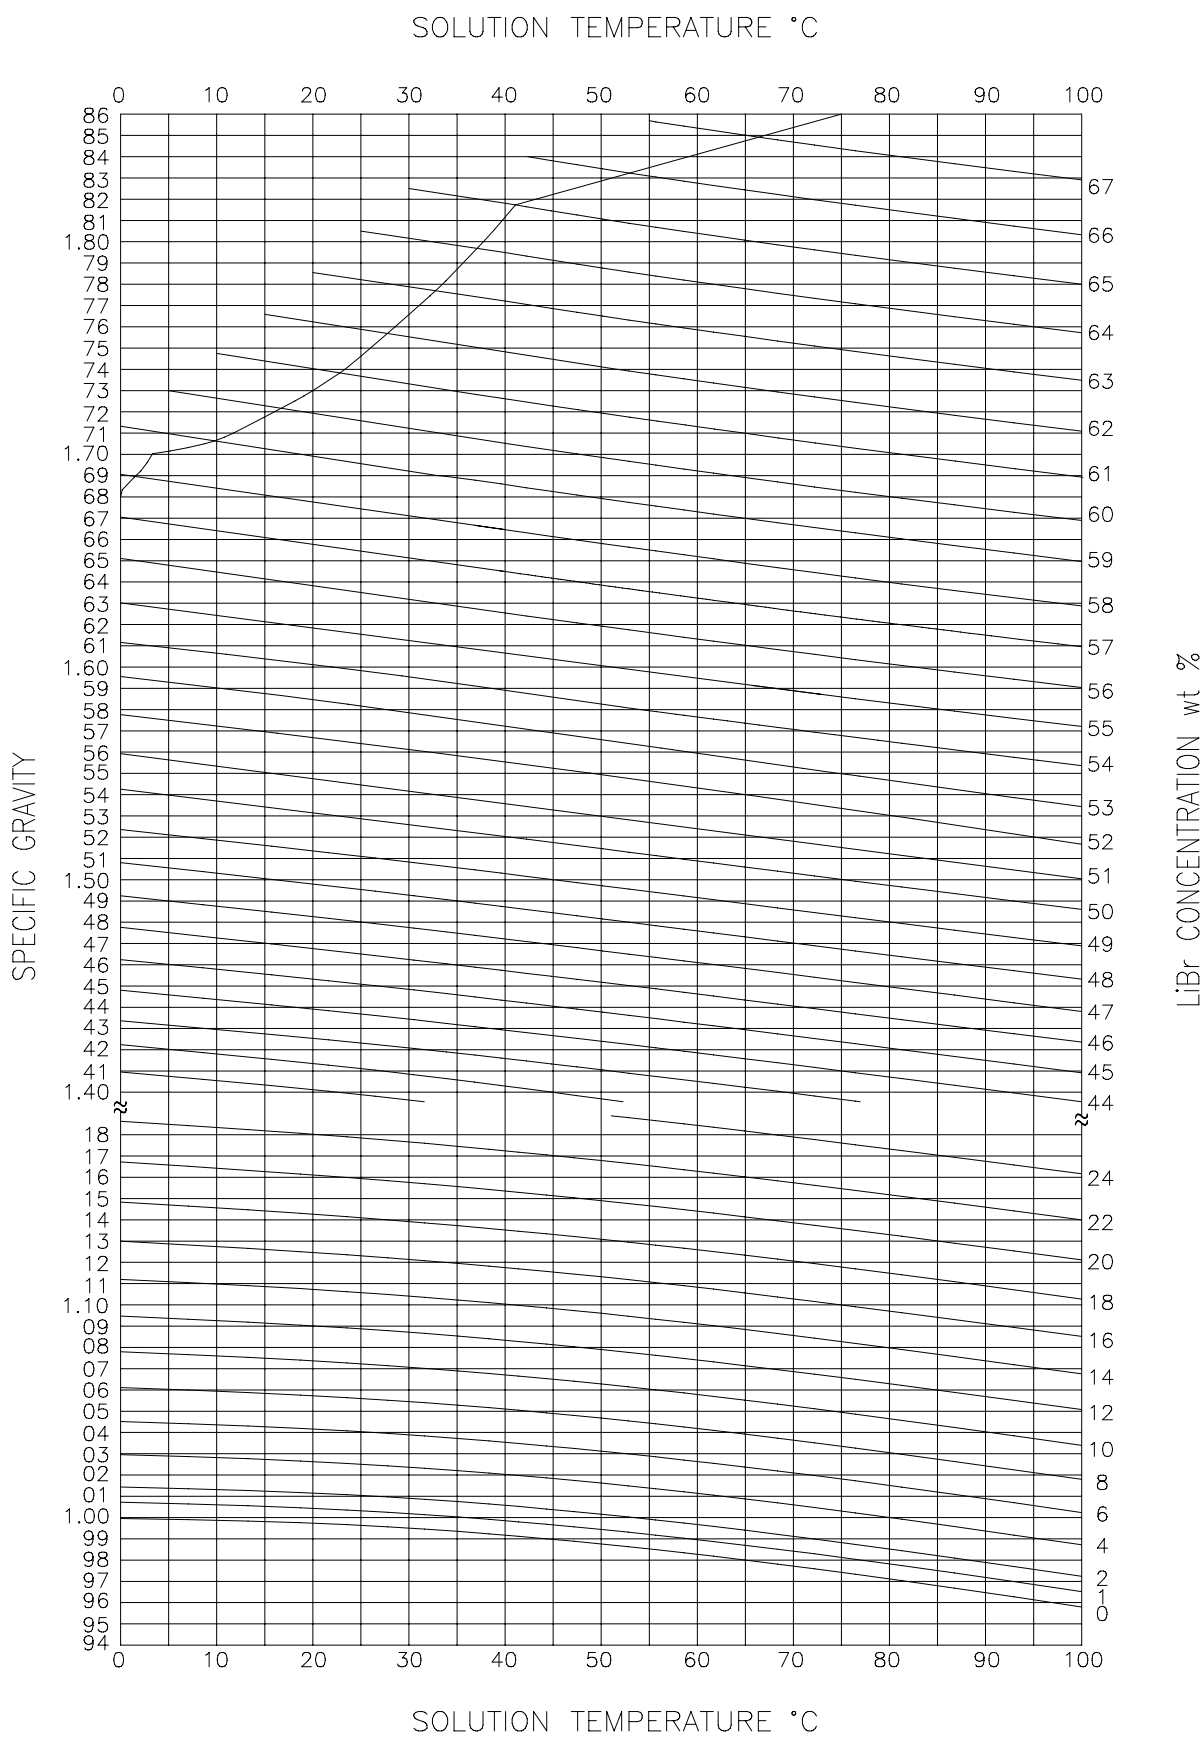

Fig. 7-3. Concentration Diagram of Lithium Bromide Solution
- (1) Fill sampling cylinder to about 80% with solution to be measured.
- (2) Maintain sampling cylinder vertical, and insert gravimeter.
- (3) When the indication of the gravimeter stops moving up and down, read the indication on the graduated gravity of the solution.
- (4) Remove the gravimeter and put it aside. Next, insert the thermometer into the sampling cylinder and stir the solution thoroughly.
- (5) When the temperature stabilizes, read the indication on the thermometer.
- (6) Remove the thermometer and put it aside.
- (7) Store the solution in an empty bottle.
- (8) Using the Concentration diagram of Lithium Bromide solution, read the concentration.
- (9) Upon completion of measurement, wash the gravimeter, thermometer, and sampling cylinder with water, and then store them so that they do not get damaged.
- (10) Neatly arrange the containers, etc.
**Example :** The horizontal axis represents specific gravity and the vertical axis temperature. The lines going down from left to right represent fixed concentrations. For example, if the specific gravity is 1.77 and the temperature is 45°C, the concentration given by the point of intersection of lines projected from these values will be 63.1%, as shown in Fig. 7-3 (Concentration Diagram of Lithium Bromide Solution).